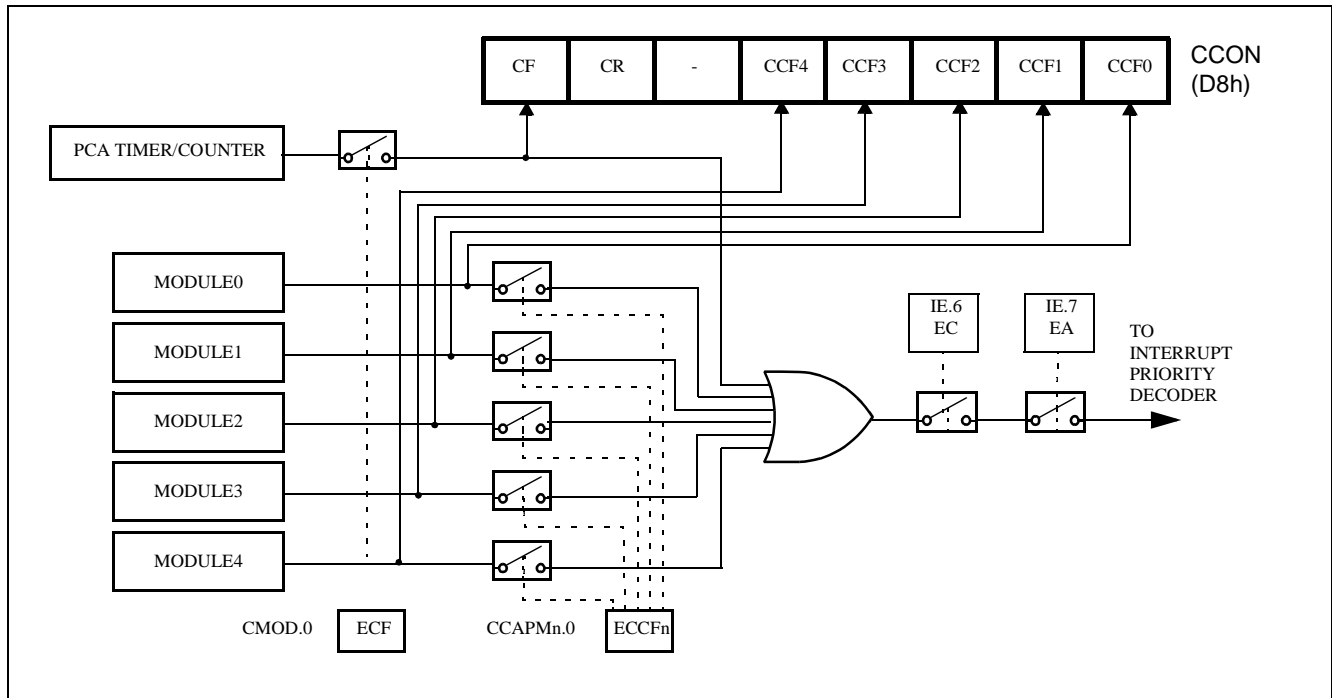

Figure 54: PCA Interrupt System
The CCON SFR contains the run control bit for the PCA and the flags for the PCA timer (CF) and each module. To run the PCA the CR bit (CCON.6) must be set by software. The PCA is shut off by clearing this bit. The CF bit (CCON.7) is set when the PCA counter overflows and an interrupt will be generated if the ECF bit in the CMOD register is set. The CF bit can only be cleared by software. Bits 0 through 4 of the CCON register are the flags for the modules (bit 0 for module 0, bit 1 for module 1, etc.) and are set by hardware when either a match or a capture occurs. These flags can only be cleared by software. All the modules share one interrupt vector. The PCA interrupt system is shown in Figure 54.